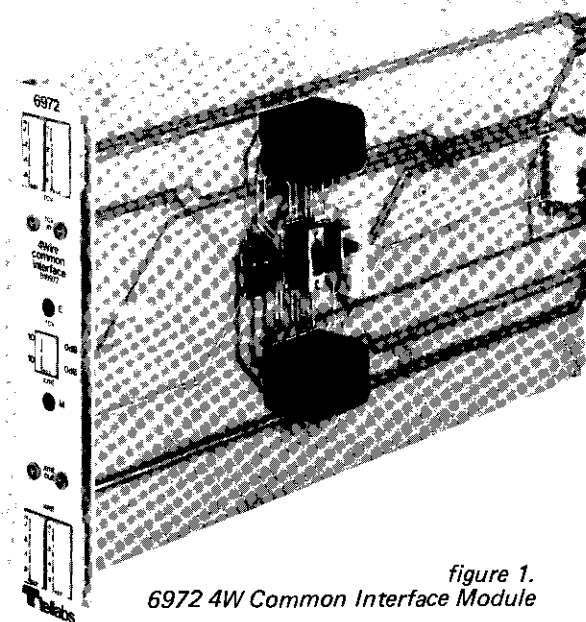

figure 1.
1.01 The Tellabs 6972 4Wire Common Interface module (figure 1) is designed to interface a 4wire transmission facility with a 4wire metallic loop or PBX trunk. As such, the 6972 module provides the functions of a 4wire-to-4wire pad/transformer. Both adjustable transmission attenuation and switch-selectable choice of facility-side terminating impedance are provided. In addition, the 6972 accepts several types of optional signaling converter plug-on subassemblies that provide various modes of loop-to-E-and-M or E-and-M-to-duplex (DX) signaling conversion. The loop and DX converters extend signaling and supervision to a distant location by accessing simplex leads derived via the line transformers that interface the metallic 4wire facility.